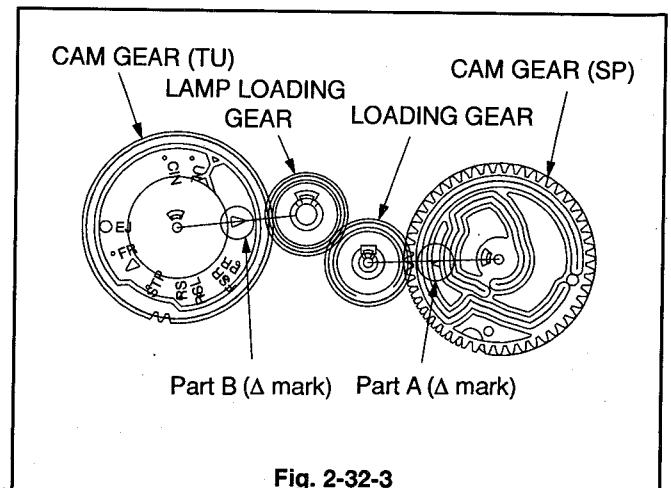

Fig. 2-32-3
- 2 Set the CAM GEAR (TU) shown in Fig. 2-32-3 so that the Δ mark on the part B points to the centre of the LAMP LOADING GEAR.
- 3 Set the CAM GEAR (SP) shown in Fig. 2-32-3 so that the Δ mark on the part A points to the centre of the boss into which the LOADING GEAR is to enter and install it.